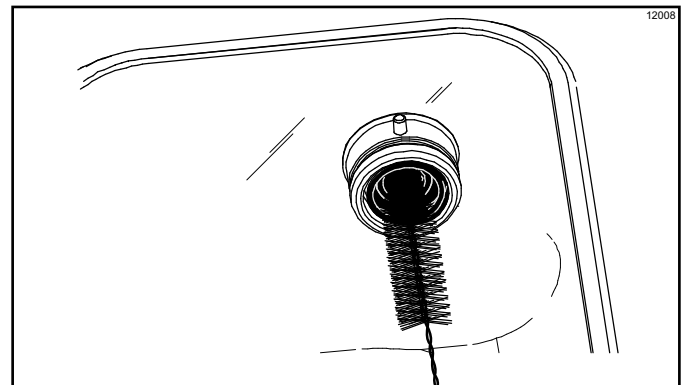

Figure 6-56
- Using the black brush, clean the drive hub opening in the rear wall of the mix hopper. (See Figure 6-56.)